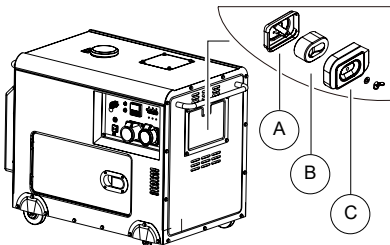

Figure 3-7. Air filter check
3. Do not use detergent to clean air filter element (B).
4. See **Figure 3-7 Air Filter check**, Open the cover of generators, you will see the air filter assembly.
5. Loosen the butterfly nut of air filter, take the air filter cover (C) off and take the filter element (B) out.
6. After replacing the air filter element, fix the air filter cover (C) and tighten the butterfly nut firmly.